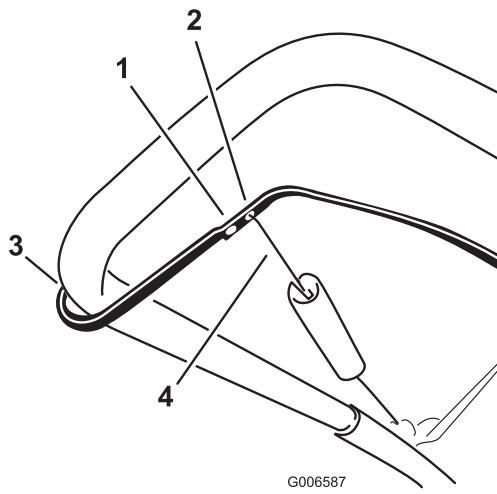

Figure 27
**Note:** After extended use, the drive belt may wear and lose its proper belt tension. If the drive belt slips (continuously squeals) under a heavy load, disconnect the spring from the adjustor link and move the upper end of the spring to the hole that is further from the pivot point in the control bar (Figure 27). Then connect the spring to the adjustor link and adjust the control cable.